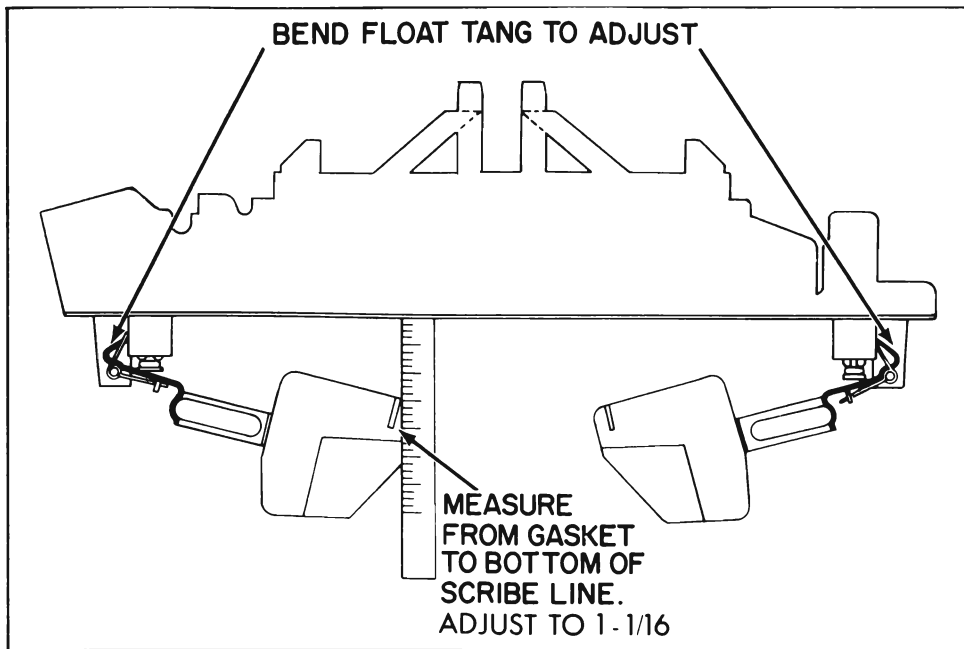

Figure 3-51—Float Drop Adjustment
21. With the air horn held upright, measure the distance from the air horn gasket to the bottom of scribe line on the side of float pontoon, as shown in Figure 3-51.